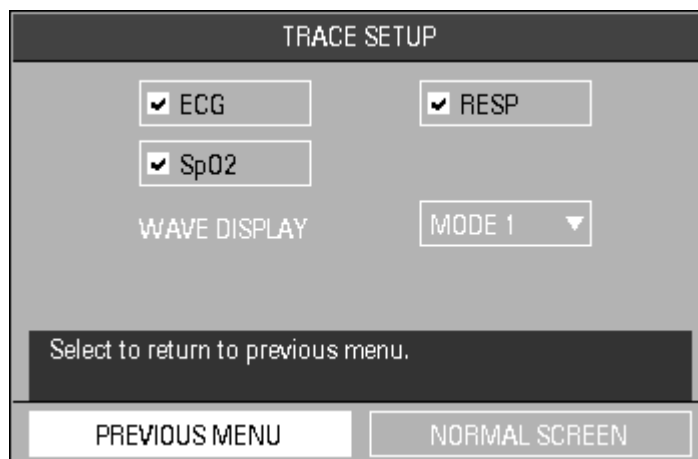

FIGURE 2-10 Trace Setup Menu
1. Select **TRACE SETUP** from the **MONITOR SETUP** menu. The **TRACE SETUP** menu (FIGURE 2-10) is displayed.